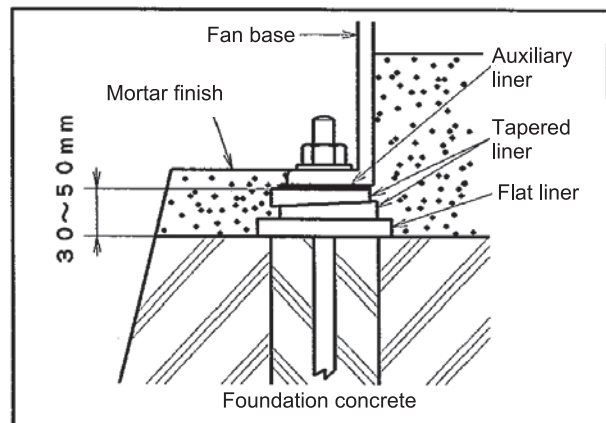

Figure 3 – Example of liner placement
- (3) As shown in Figure 3, place one flat liner and two taper liners so that they are displaced to either side around the anchor bolt hole on the fan base. Use an auxiliary liner (3 mm or thicker) as needed.